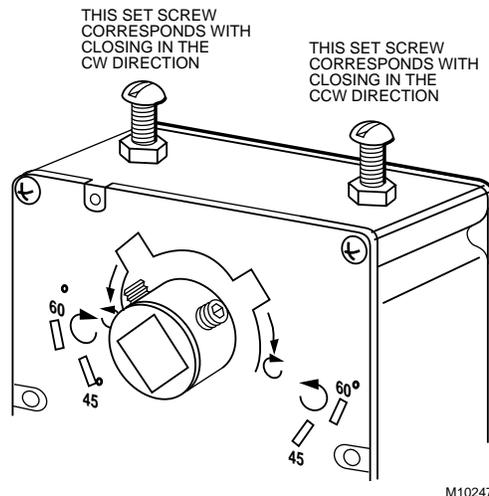

Fig. 8. Setscrew location for ML6174.
Certain ML6174 and all ML7174 models are equipped with two tapped holes located in the plastic housing at the top of the actuator. These holes can be used with the minimum position setscrew and locknut inside the 4074ENJ Bag Assembly (see Fig. 8). The setscrew provides for a 0° to 30° minimum position adjustment.
3. Establish the correct hole for the setscrew using Fig. 8 and the results of step 1.